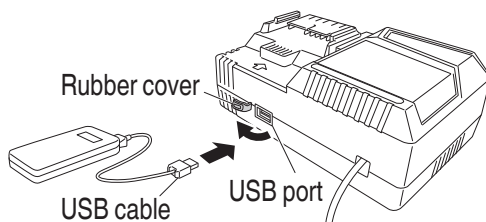

Fig. 24
- (2) Connect the USB cable. (Fig. 24)